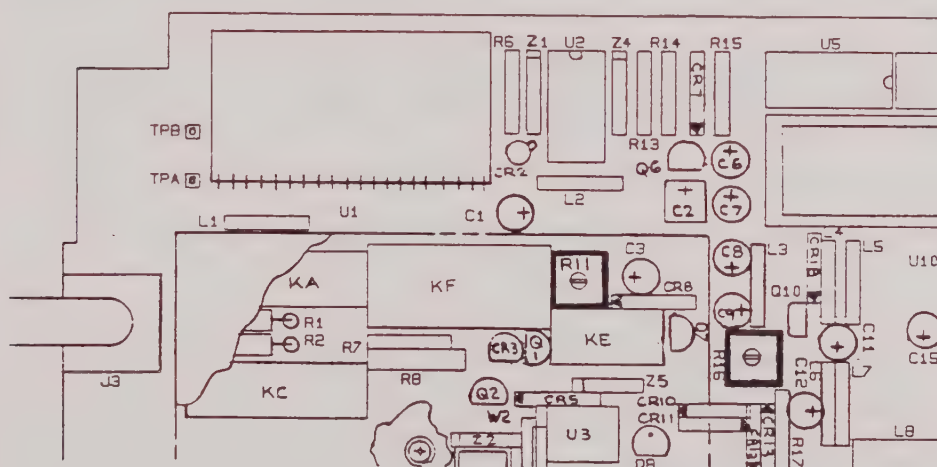

Fig. 6.2 Location of R16 and R11
- 27 First, set R16 fully counterclockwise and R11 to its midposition. R11 and R16 are located inside the screened module, as shown in Fig 6.2.